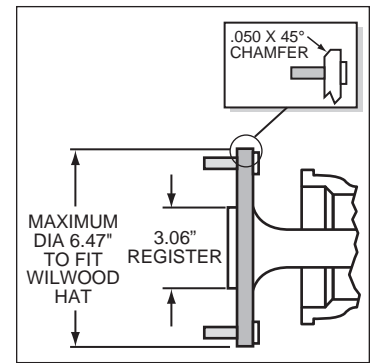

Figure 5. Axle Flange Maximum Dimension
- Maximum axle flange diameter must be no larger than 6.47" w/.050" x 45° chamfer (Figure 5).